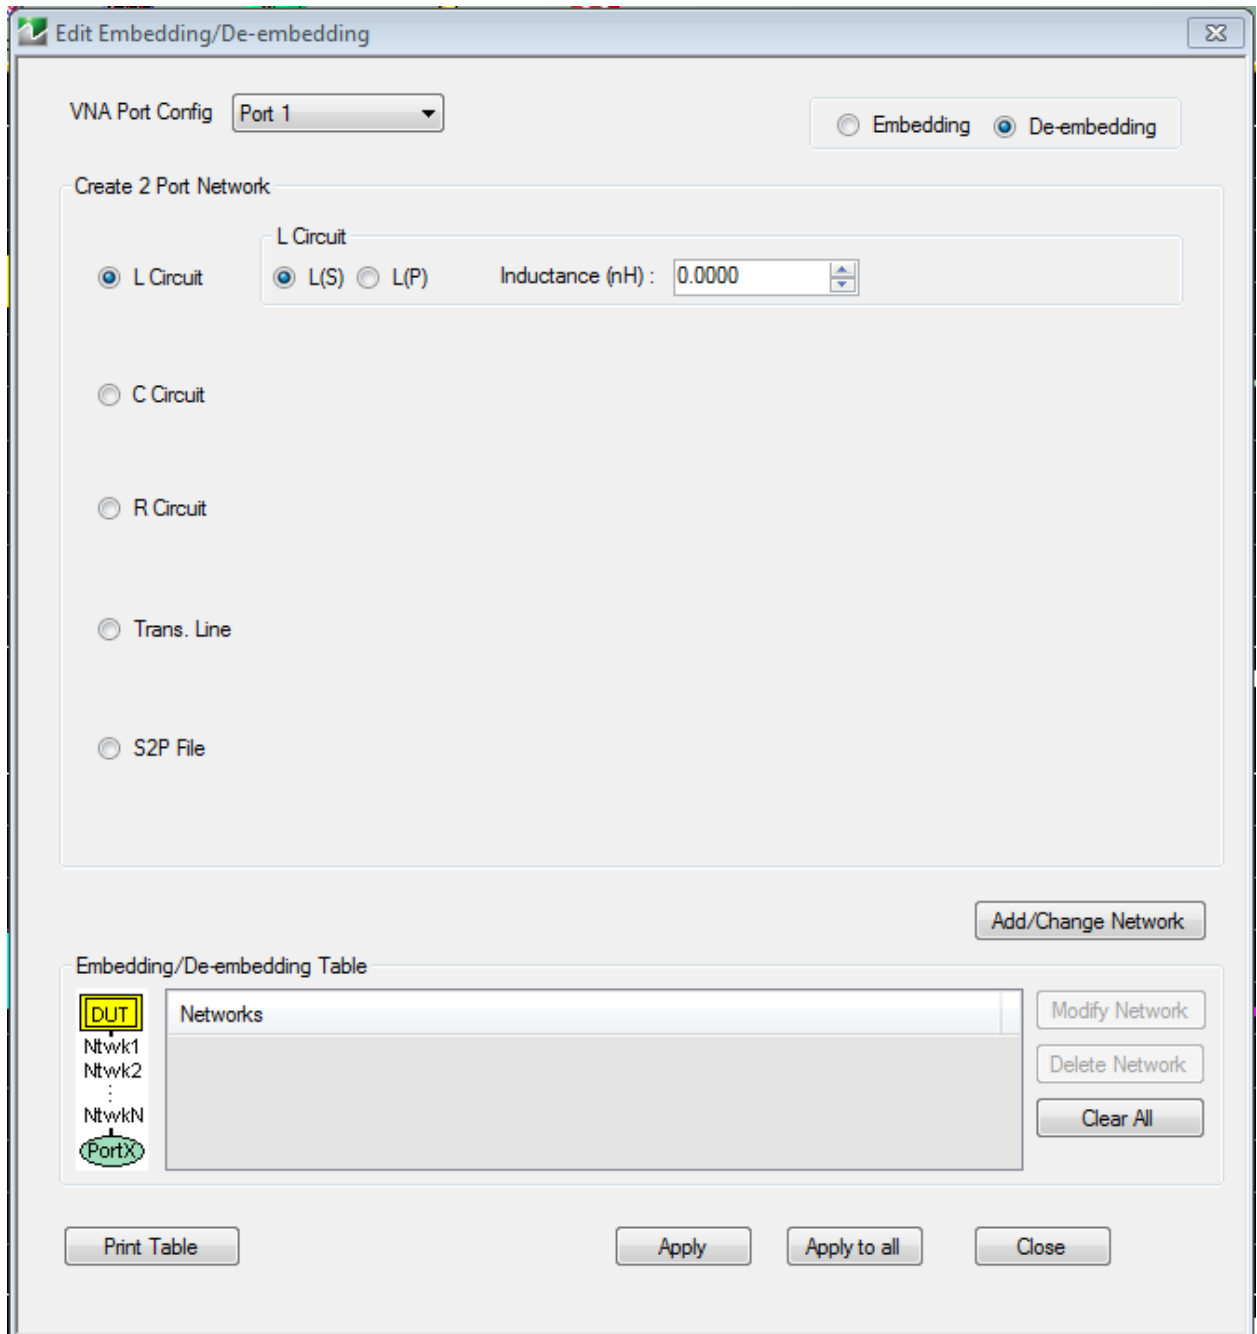

Figure 9-3. EDIT EMBEDDING/DE-EMBEDDING (2 PORT DUT) Dialog Box - L Circuit
In addition, there are some clerical tasks to describe including the order of virtual operations and some conversions to other parameter formats (impedances and admittances for example). The measurements menu that contains the majority of these functions is shown below (Figure 9-3, “Reference Plane Control” on page 9-12). Parameter conversions are a per-trace function (as opposed to the others which are per channel) and is listed under the DISPLAY menu.
The first network entered is always nearest the DUT. The pull-down menu at the top of Figure 9-3 shows which port's networks are currently being edited. The diagram in Figure 9-4 illustrates the independence concept.
In the EDIT EMBEDDING/DE-EMBEDDING dialog box in Figure 9-3 above, the radio button for entering an LC network has been selected. An additional version of the dialog box is shown in the figure below where a C(S) network has been selected.